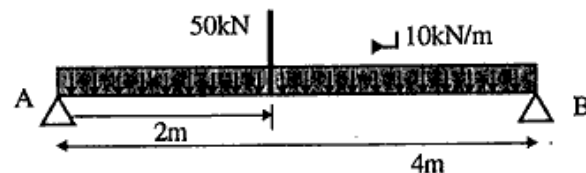

Figure 1.0
4. A Simply Supported R.C. rectangular beam of span 4m and cross section 150mm×300mm is loaded as shown in figure 1.0. Find the maximum Slope and deflection of the beam. Take $E = 2 \times 10^4 \text{ N/mm}^2$